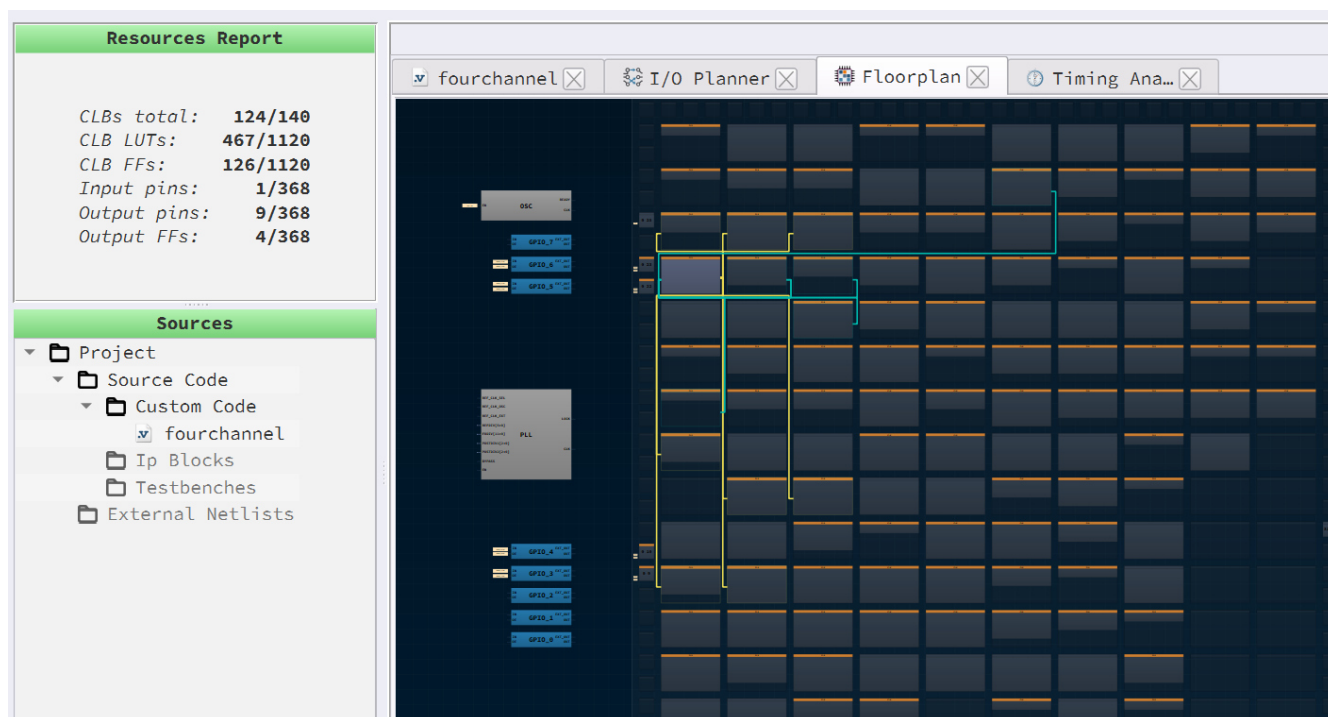

Figure 3: Four Channel Breathing CLB Utilization
The Floorplanner tab in the FPGA Editor shows the placement of the CLBs and FFs (Figure 3). The resource utilization is shown in the top left corner.
8. Now click on the Floorplan tab and see the CLB utilization (Figure 3). Press the Ctrl and the mouse wheel to zoom-in. Confirm that the IOs selected in the IO Planner are shown in the floorplan.